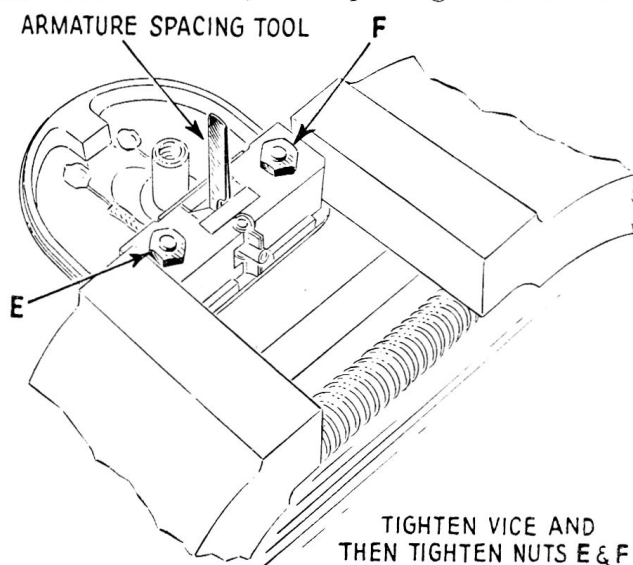

Figure 7—Magnetic pick-up in vise
- Place the new rubber pivot supports in their proper place. This may be either tubing or strips. Reassemble the pole pieces and coil, and new rubber damping block in place with armature spacing tool in place as shown in Figure 7. Now place in a small vise and clamp the pole pieces together, as shown in Figure 7, with the spacing tool in place. Tighten nuts E and F, remove pick-up from vise and remove spacing tool.